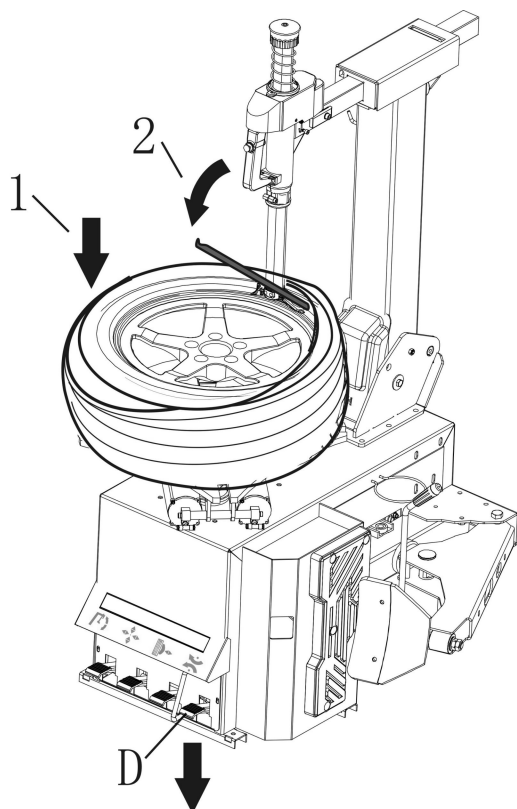
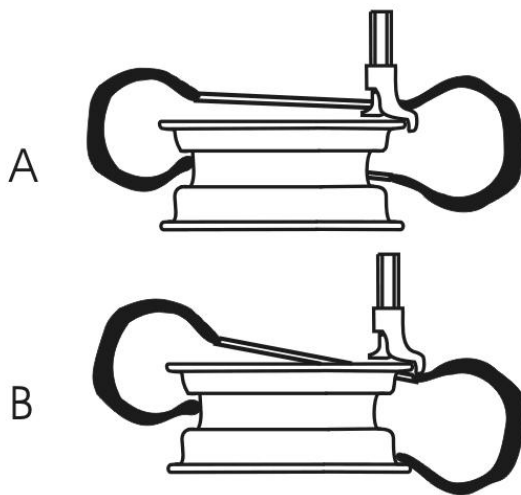
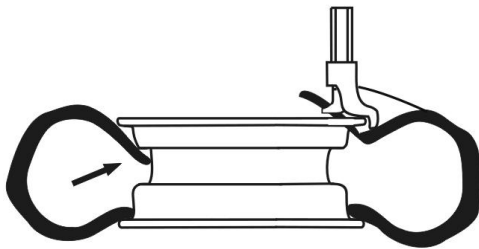

Fig. 22
Fig. 28
Fig. 29
- Insert lever into wheel near mounting head (Fig. 22).
- Press pedal D (Fig. 22), turntable turn clockwise, until edge of wheel fall off
- *If the demounting process is prevented, stop the turntable from turning around, lift pedal D (Fig. 22), let the turntable turn anti-clockwise.*
- Press down the central part of the tire. Depress the pedal D (Fig.22) to turn the turntable clockwise, making the lower tire bead fall into the rim groove completely (see fig.28-A).
- To install the upper tire bead, place the tire well and readjust position of the tire bead (same as mount of the lower tire bead in Fig.28-B). Press down the tire opposite to the mount/demount head to the rim groove (Fig.29)
- Depress the pedal D (Fig.22) to turn the turntable while keeping pressing on the tire. When only 10~15cm is left, slow down to avoid damage of the tire bead. Stop the motor if there is any indication for damage. Lift the pedal D and turn the turntable counter-clockwise. Try again when the tire is back to the original shape.